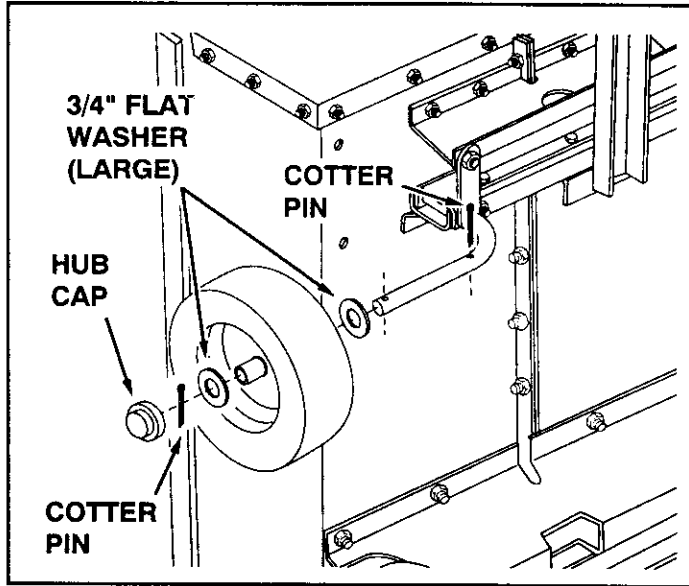

FIGURE 13
- Assemble a cotter pin to the inside hole in an axle spindle. Next place a 3/4" flat washer, a wheel (valve stem facing out) and another 3/4" flat washer onto the axle spindle. Assemble a second cotter pin to the axle. Repeat for other side. See figure 13.
- Assemble a hub cap over the 3/4" flat washer on each wheel. See figure 13.